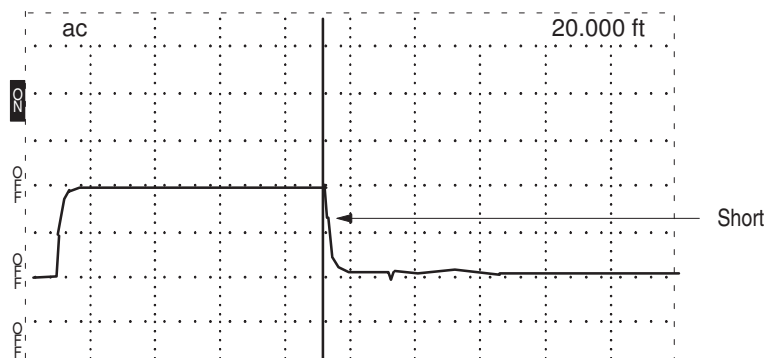
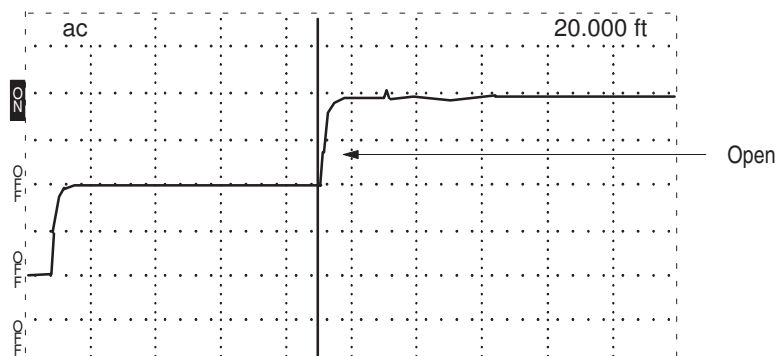

Figure 1-9: Short in the Cable
Figure 1-10: Open in the Cable
When the entire cable is displayed, you can tell if there is an open or a short. Essentially, a large downward pulse indicates a short (see Figure 1-9), while a large upward pulse indicates an open (see Figure 1-10). Less catastrophic faults can be seen as smaller reflections. Bends and kinks, frays, water, and interweaving all have distinctive signatures.
3. To find the distance to the fault or end of the cable, turn the $\triangleleft \triangleright$ POSITION control until the cursor rests on the leading edge of the rising or falling reflected pulse (see Figure 1-10). Read the distance in the distance window in the upper right corner of the display.